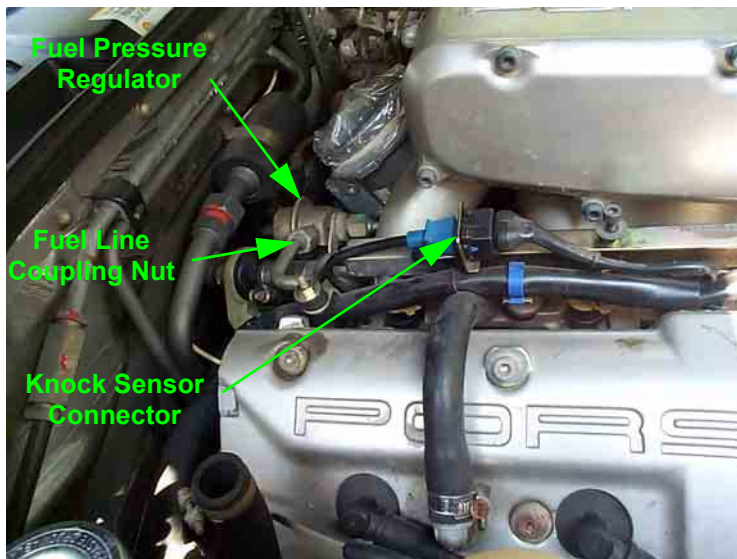

FIGURE 5
Place a shop rag under the fuel line nuts at the rear of the fuel rails to catch any remaining drops of fuel and disconnect the rear fuel connections. *See Figure 5.* (Rear driver's side coupling not shown.)
- j. Disconnect the right-side knock sensor harness connector. *See Figure 5.* On later-model 928s, in particular the GTS model, the knock sensor harness connector may be underneath the fuel rail and difficult to disconnect. If this is the case leave the sensor connected but make sure that the harness routing will not interfere with removal of the fuel rail.